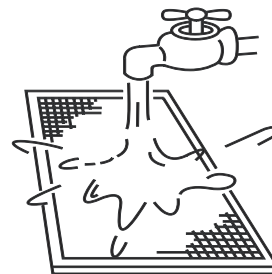

Figure 12.3
- b. The air intake side should face down when using clean water. (Refer to Figure 12.3)